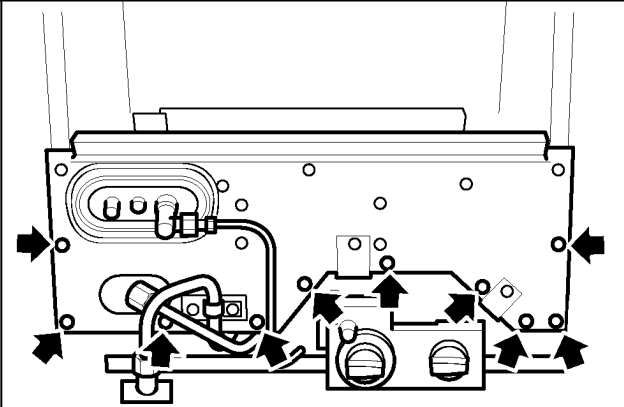

Figure 31 Burner module fixing screws
- Detach the burner front cover by unscrewing the 10 screws at the front of the burner module shown in figure 31.